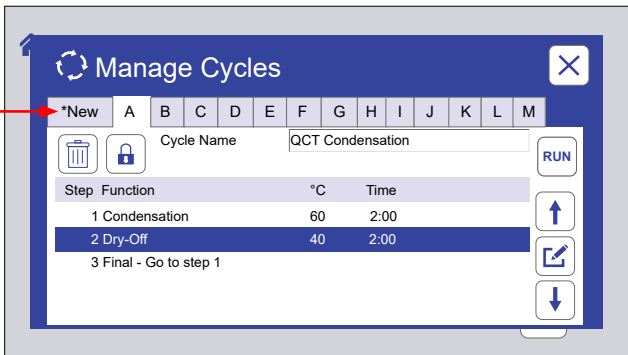
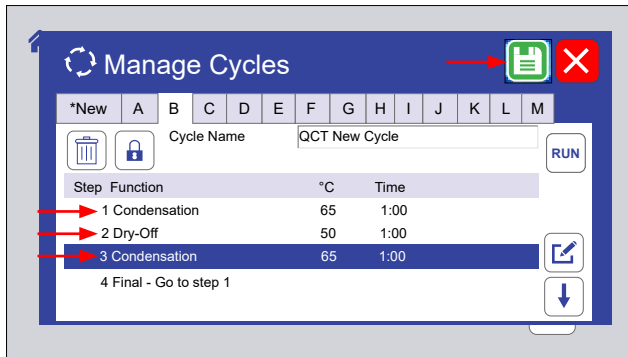

Figure 8.7.7a: To create a new cycle, touch the *New tab.
Figure 8.7.7e: Follow Figure 8.7.4a through Figure 8.7.4h to add steps and save the new cycle.
- o Create a new cycle (Figure 8.7.7a through Figure 8.7.7e).